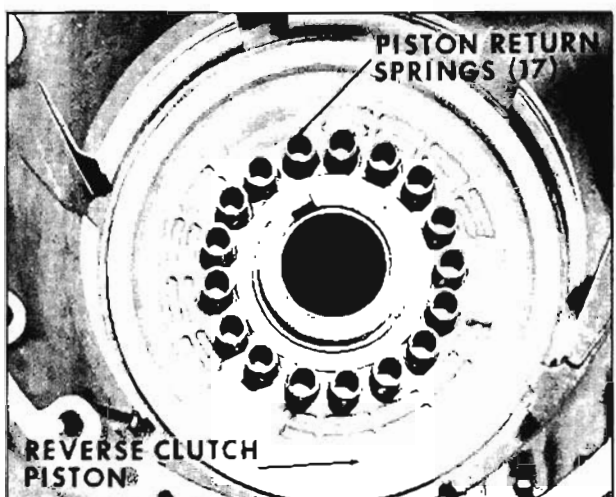

Fig. 6-418 Installing Return Springs
2. Install 17 clutch piston return springs. (Fig. 6-418)